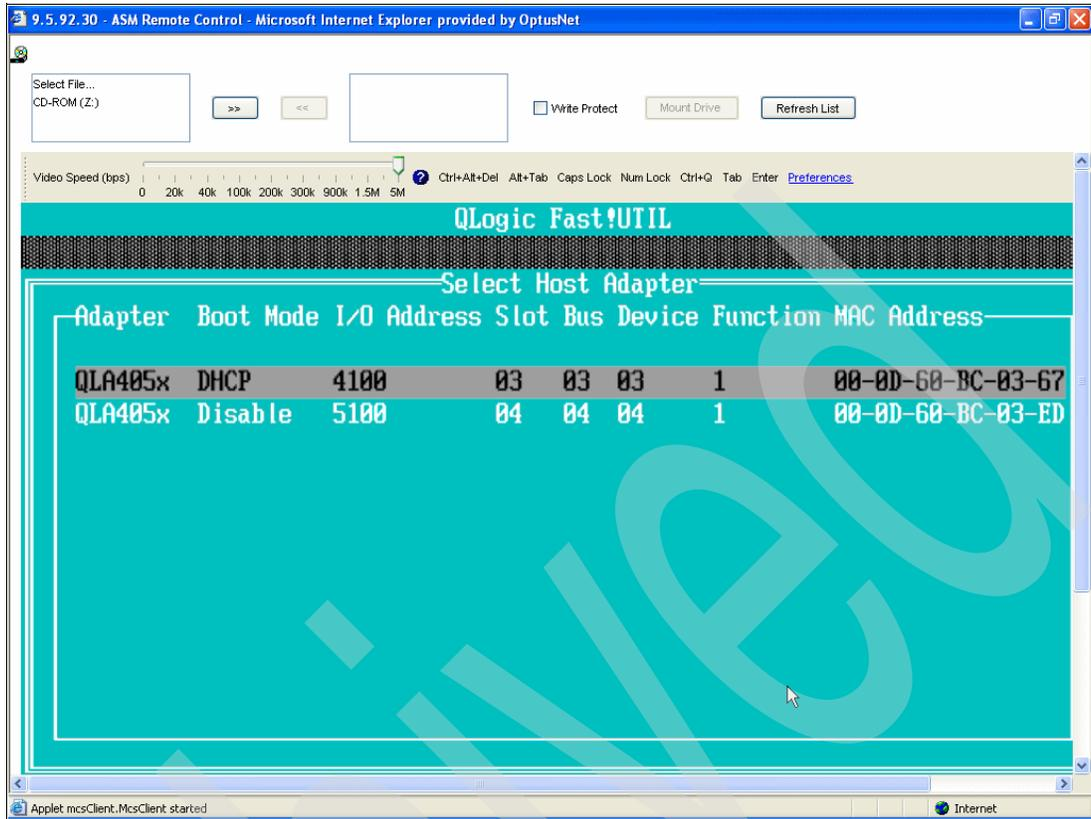

Figure 9-57 QLogic Fast!UTIL display
3. After a minute or two, you see the display shown in Figure 9-57 on page 427.
Figure 9-57 shows two initiator HBA ports that are installed in the xSeries or Blade server, their MAC addresses, and other configuration information.
In Figure 9-57, the second port is the one, which has just been installed. You can tell which port has just been installed from its MAC address, because you would have previously recorded the MAC address of the first port you installed in order to configure the IP addresses in the RMTSYS object for this xSeries or Blade server.
Alternatively, you can tell which port has just been installed by comparing the MAC addresses shown in Figure 9-57 with the MAC addresses printed on a sticker attached to the adapter. An xSeries HBA has a label with two MAC addresses (one for the SCSI side and the other for the LAN side), whereas a Blade HBA has a label with four MAC addresses (one for the SCSI side and the other for the LAN side of both ports). The SCSI side MAC is labelled “iSCSI” and the LAN side is labelled “TOE” (TCP Offload Engine). Note that you need to record the MAC addresses on the Blade HBA before you install it, because the sticker is not visible once the HBA is installed.
In the example shown in Figure 9-57, these values are: 3, 3, and 1 respectively. You need this information later when you specify the boot port in the RMTSYS object.
- Record the MAC address of the initiator HBA port you just installed, *not* the boot port! In Figure 9-57 on page 427, the value is: 00 0D 60 BC 03 ED.